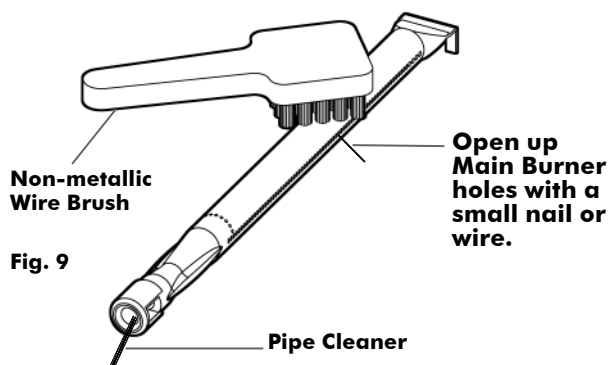

Fig. 9
6. Use a pipe cleaner to clear insect nests from the inlet hole of Main Burner (Fig. 9)
7. Open up the Main Burner holes (Fig. 9) with a small nail or wire. Use a **non-metallic brush** to remove food particles and corrosion from the Burner surfaces.